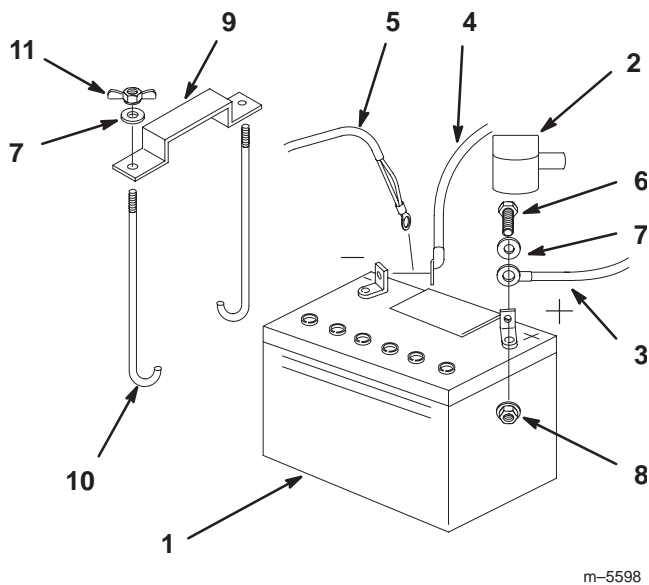

Figure 61
1. Position battery in tray with terminal posts toward the engine (Fig. 61).
4. Secure cables with 2 bolts (1/4 x 3/4 inch), 2 washers (1/4 inch), and 2 locknuts (1/4 inch) (Fig. 61).
6. Secure battery with J-bolts, hold down clamp and 2 washers (1/4 inch), and 2 wing nuts (1/4 inch) (Fig. 61).
3. First disconnect the negative battery cable and ground wire from the negative (-) battery terminal (Fig. 61).
4. Slide the red terminal boot off the positive (red) battery terminal. Then remove positive (red) battery cable (Fig. 61).
5. Remove both wing nuts (1/4 inch) securing the battery clamp (Fig. 61).